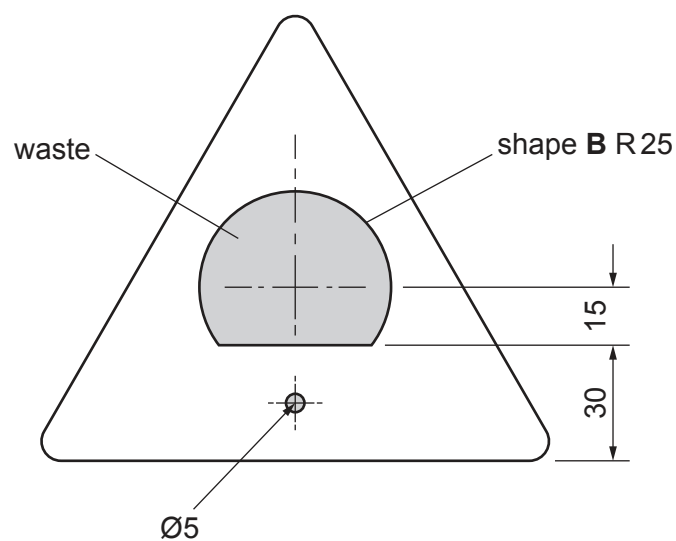

Fig. 13.3
- (c) Fig. 13.3 shows the front of the bird feeder with the Ø5 hole and shape **B** marked out.